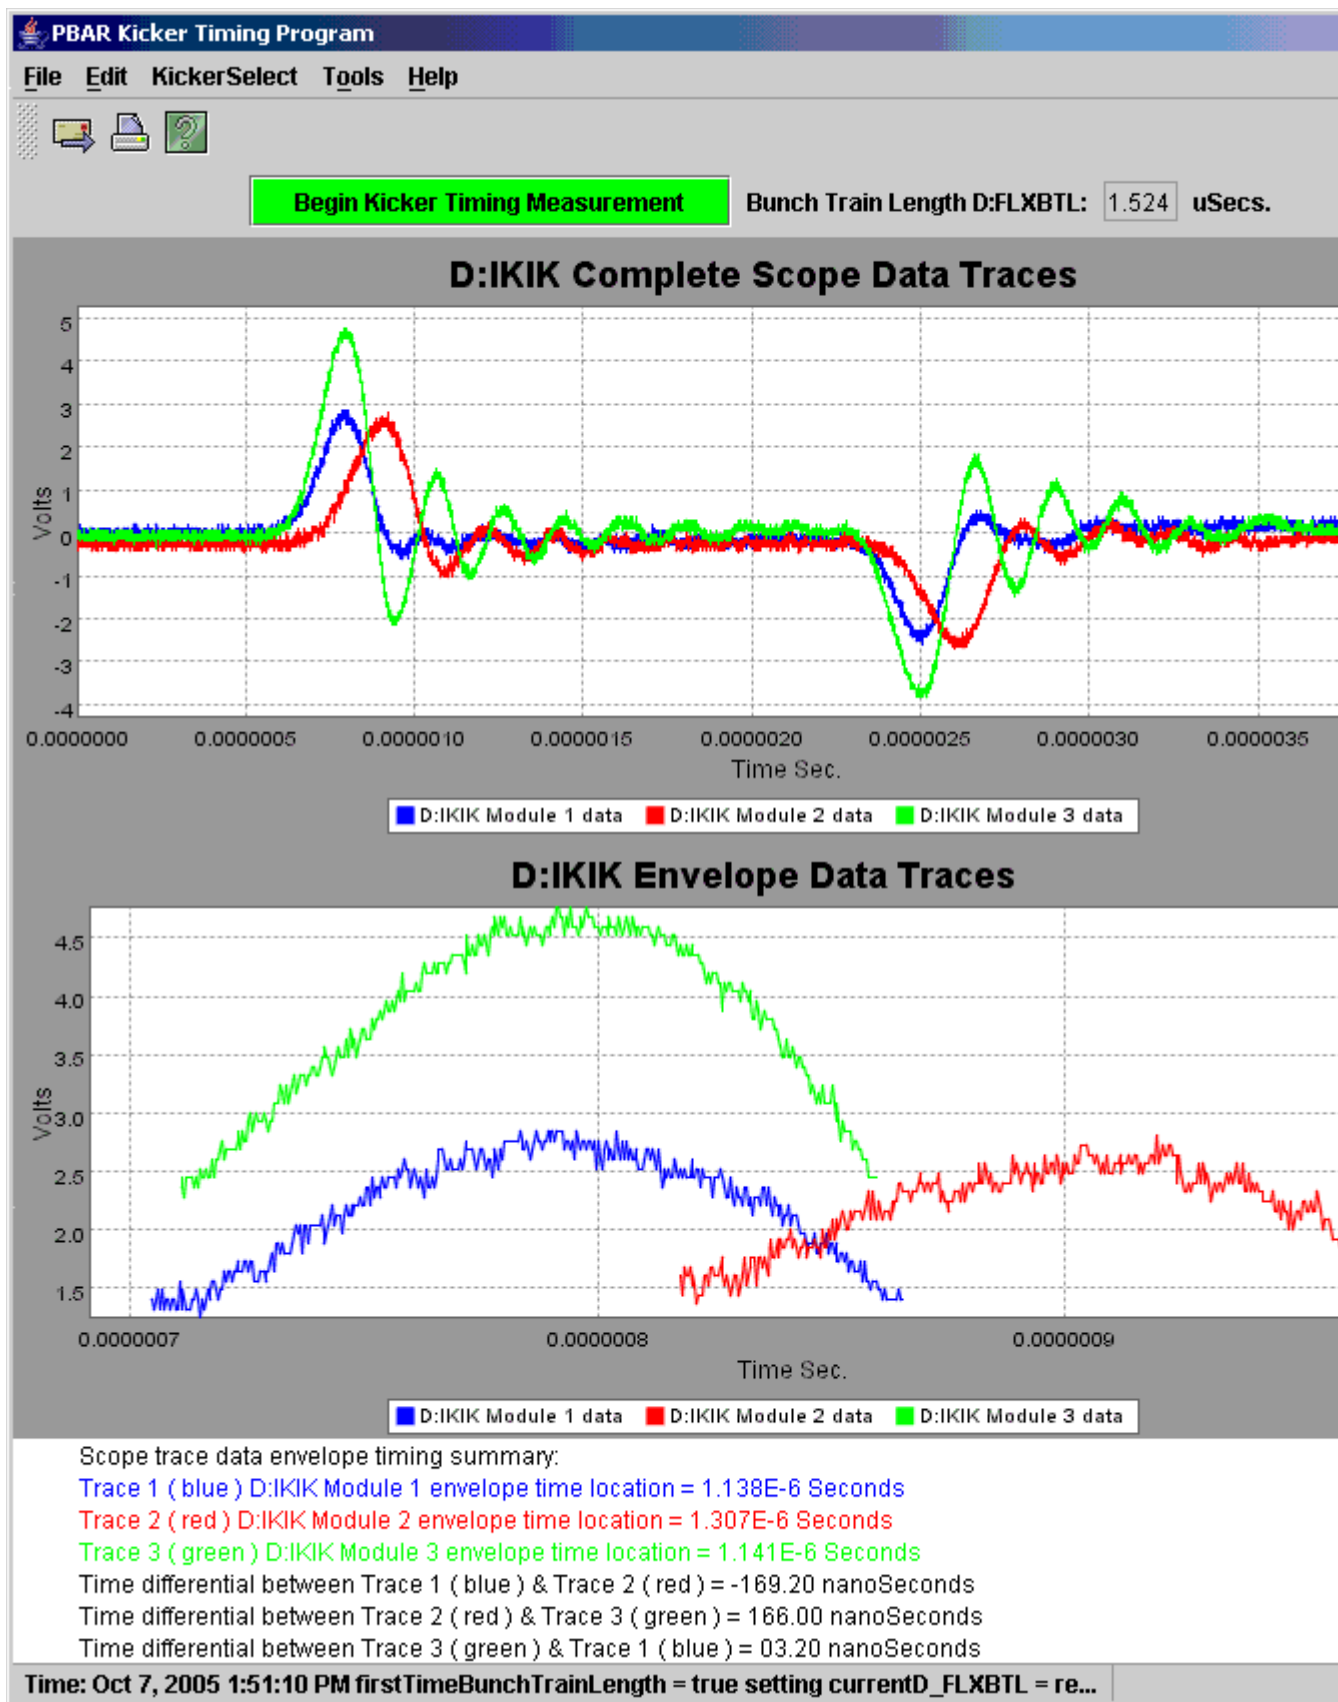

Figure 16: The Pbar Kicker Timing Program shows the
6. Click on the green box that is labeled "Begin Kicker Timing Measurement" as shown in Figure 16. Note the value of D:FLXBTL.
results of this display with that of Figure 16, it is clear that the three traces are closer to being aligned after the tuning was completed.